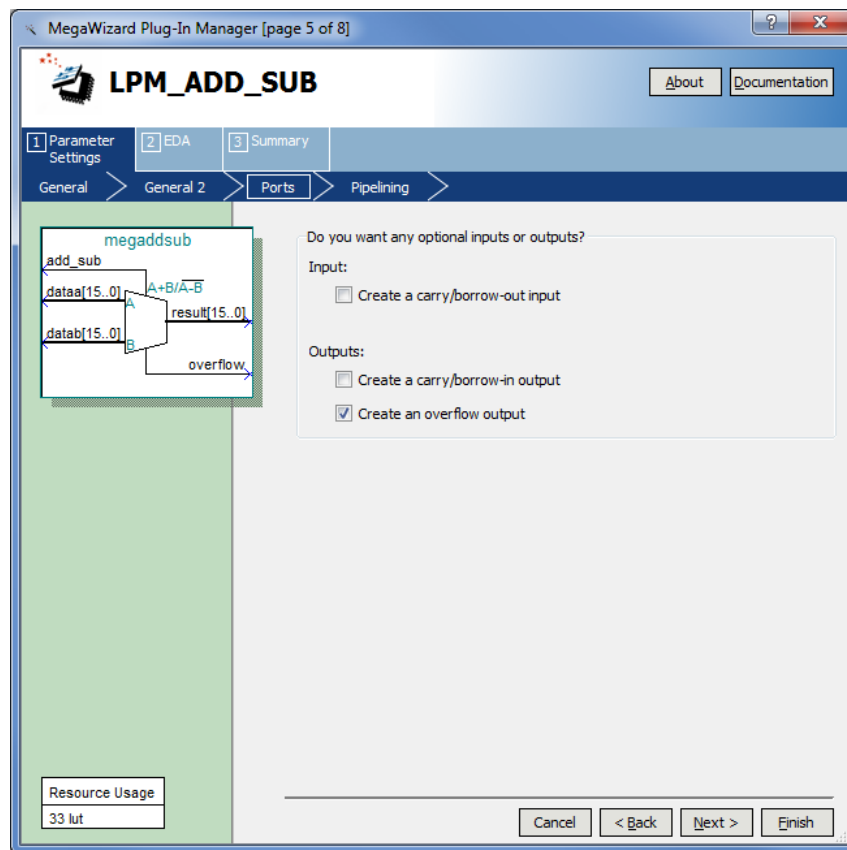

Figure 8. Specify the Overflow output.
- The box in Figure 8 allows the designer to indicate optional inputs and outputs that may be specified. Since we need the overflow signal, make the Create an overflow output choice and press Next.